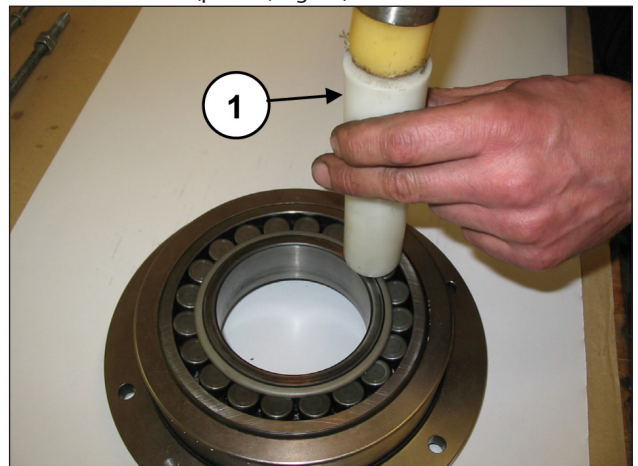

Fig. 25
Lay the bend shaft on the bottom of the casing. Separate the bearing support cover from the bearing, using an extractor hammer (pos. ①, Fig. 25).